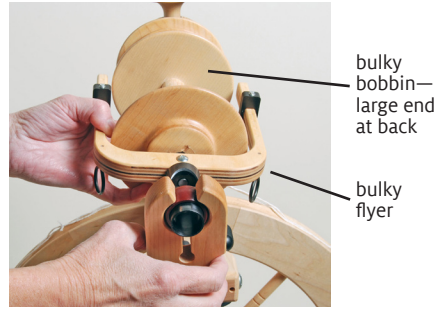

FIGURE 5: INSTALL BULKY FLYER
11. Insert the whorl end of the bulky flyer into the rear bearing. Insert the orifice end of the flyer into the bulky front maiden bearing (Figure 5). Tilt the bulky front maiden upright and secure with the T-knob.